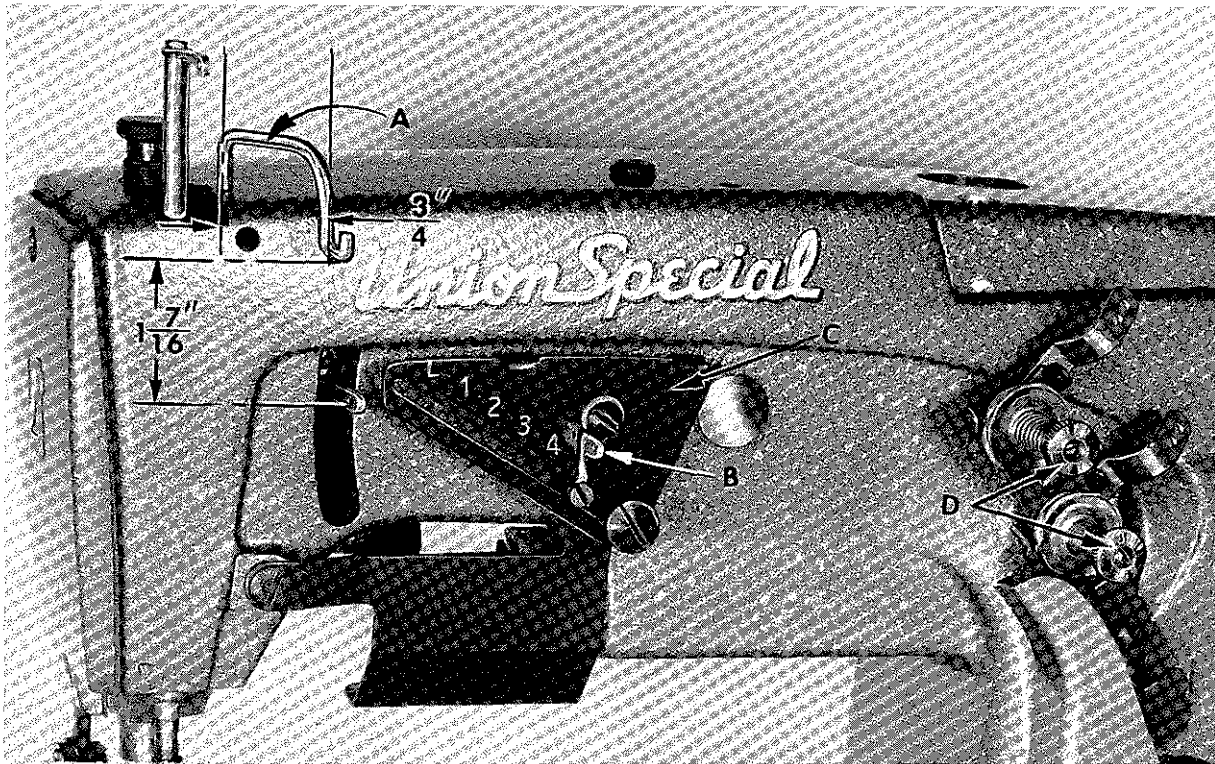

Fig. 12A
With the needle bar at the top of its stroke, set the needle thread take-up wire (A, Fig. 12A) so its lower extended surface is  $1 \frac{7}{16}$  inch above the centerline of the needle lever thread eyelet hole and  $\frac{3}{4}$  inch across the centerlines of its vertical surfaces (See Fig. 12A).
Thread machine and move the adjustable eyelet (B, Fig. 12A) on the indicator plate (C) to the letter "T". Apply necessary tension to both needle and looper thread at disc tension nuts (D) and start to sew. Looper thread tension should be light. Adjust tightness of needle thread tension to pull up the smallest needle loop required. This setting should produce a tight stitch. Without changing tension, move the adjustable eyelet (B) to the uppermost position "L", and sew another seam. This seam should be loose, producing long needle loops.